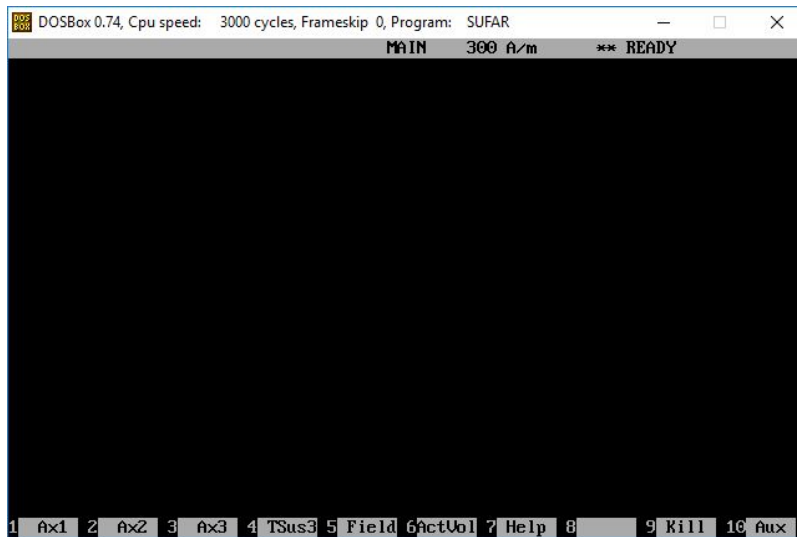

Figure 9b Main Sufar Window
2. Navigate to the Sulfar Main window (press F10 if in the Auxiliary window). From the Sulfar Main window (*Figure 9b*), press **F1** to initiate Ax1 measurement
16. User will be returned to the Main Sufar window (Figure 9b). You may begin the next measurement now by repeating steps one through seven.